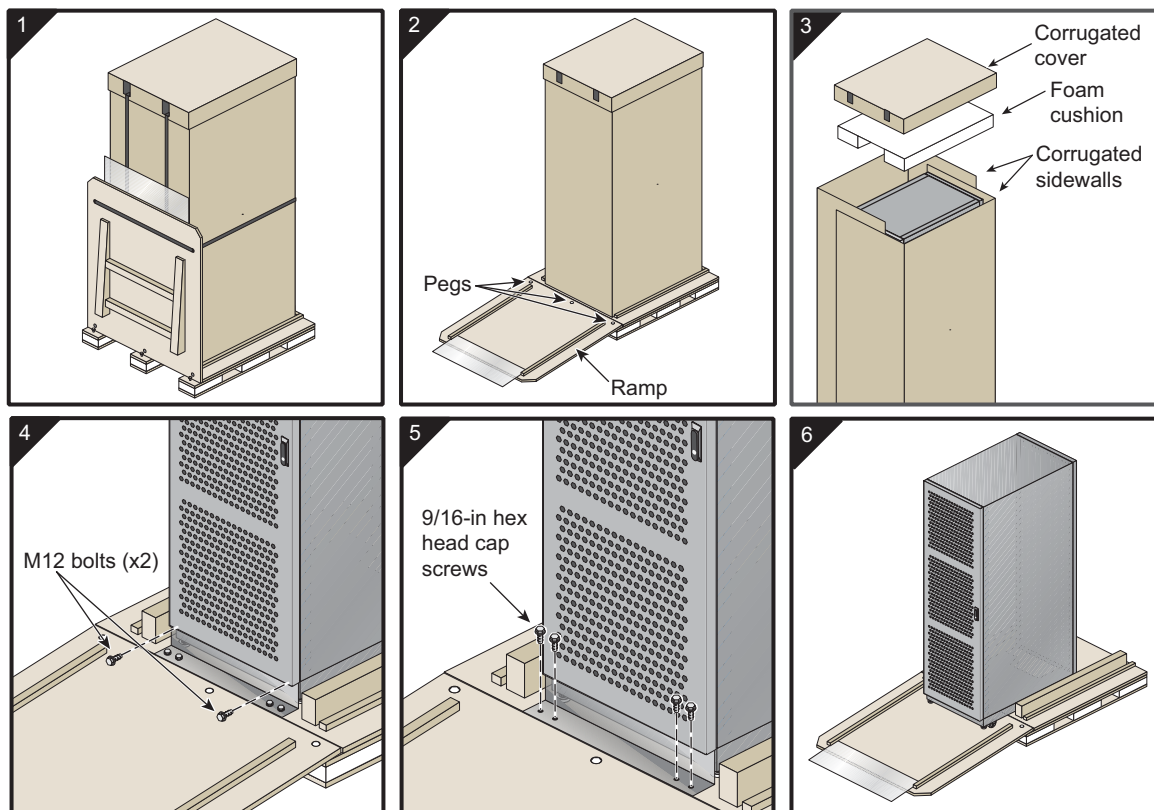

Figure 1-7 Removing the Rack from the Shipping Container
Refer to Figure 1-7 as you follow these steps; the numbered illustrations correspond to the numbered steps. Ensure that the temperature of the rack is acclimated to the installation environment and that the system container is stable, and in an upright position.
2. Position the ramp as shown in Figure 1-7. Holes in the ramp fit over the pegs in the base.